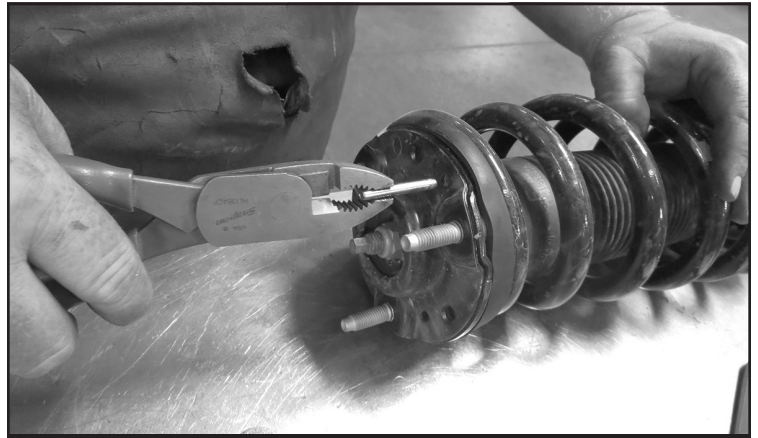

FIGURE 4 - STEP 4
4. Remove and discard the locating pin from the factory strut top cap. **SEE FIGURE 4**